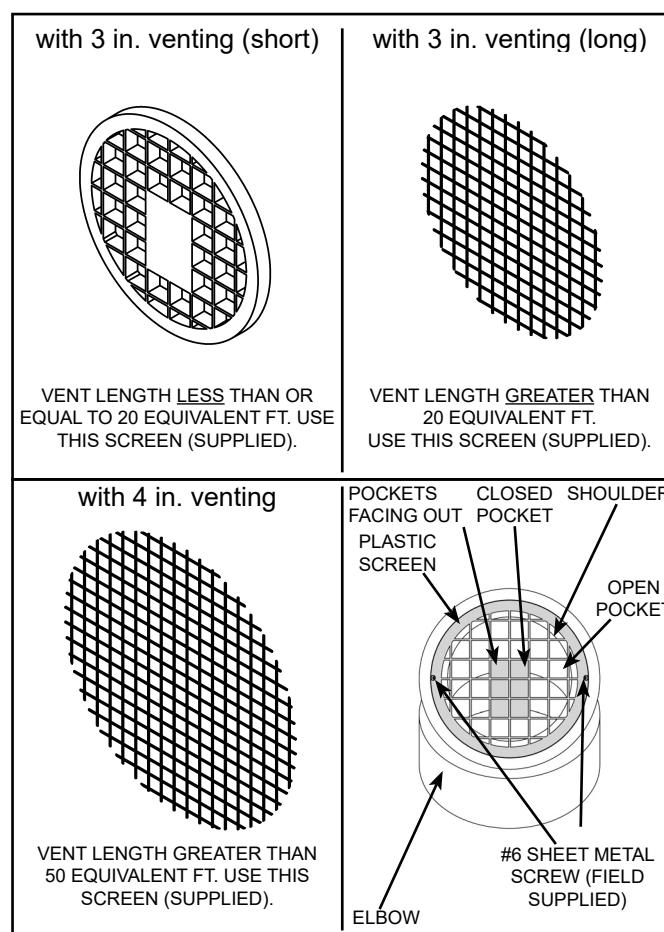

Figure 32.
- Secure screen in place with screws (field supplied) (see Figure 32).
* see Figure 32, "Venting terminations and sizing" and "Vent screen installation".